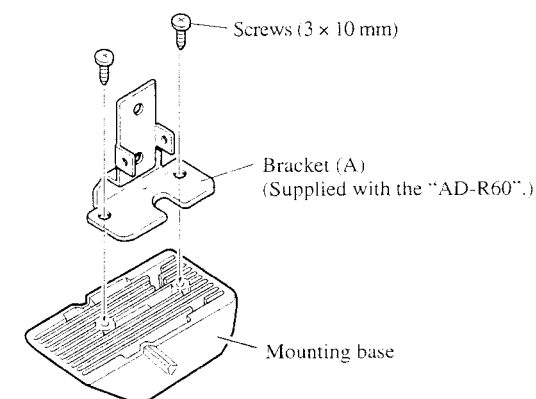

Fig. 20
Install the bracket (A) of the "AD-R60" to the mounting base. (Fig. 20)